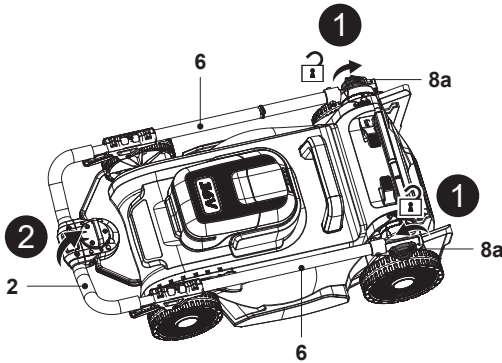

Fig. 1
2. Loosen the two locking knobs (8a) counterclockwise on the lower handle bars (6), but do not remove them (Fig.1, step 1).
3. Hold the grip handle (2) with one hand and unfold the handle assembly (4, 6) (Fig. 1, step 2).